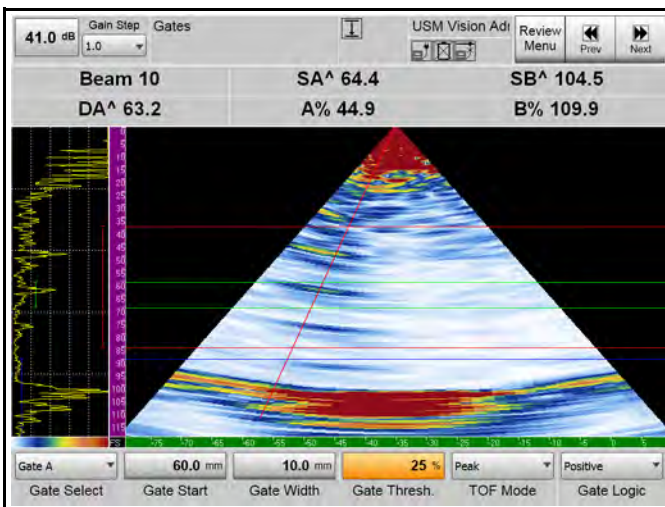

Figure 54: Full Screen Calibration Check
8. The system is now calibrated, confirmed by the calibration symbol . You can perform a calibration check using a SDH in 65 mm or an SDH full screen (Figure 54).